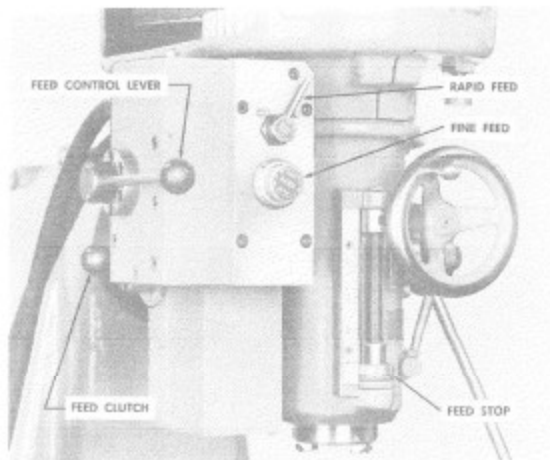

Fig. 26. Front view of power quill feed.
The hydraulic quill feed control lever (Fig. 26) has three positions: "UP", "OFF", and "DOWN". Pushing the lever up raises the quill, pushing it down lowers the quill.
The rapid power quill feed lever (Fig. 26) has two positions, "ON" and "OFF". The rapid feed is used for positioning the quill vertically, and for reaming operations. It is also used to return the quill quickly to the starting position after a vertical feed operation has been completed.
The fine feed control knob (Fig. 26) provides infinitely variable feeds ranging from 0 to 25" per minute. This control can be used only when the rapid feed lever is in the "OFF" position.
- B. Place rapid feed control lever at "ON" position. See Fig. 26.